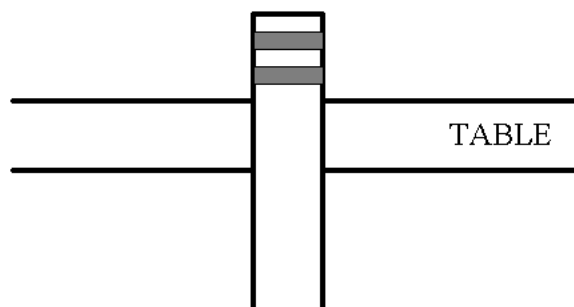

Figure 12
- (a) *Secure-it* has asked you to design a working model that could be used in an exhibition. The model will be table mounted and the bollard and the table surface are shown in **Figure 12**.
Complete **Figure 12** to show a suitable mechanism to give a *continuous* slow up and down movement.